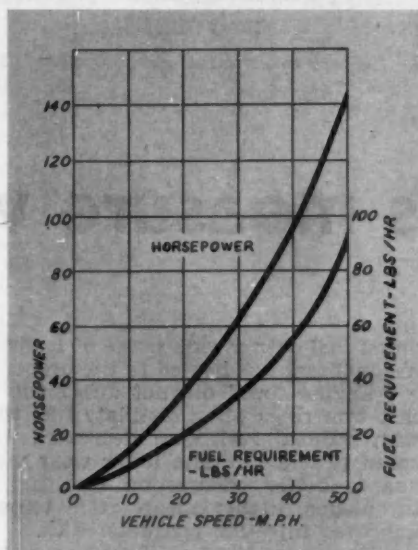

Fig. 8 — Roadload horsepower and fuel requirement versus vehicle speed. (gcw = 55,000 lb)
- The wheel horsepower and the fuel requirements in the typical vehicle are essentially straightline functions up to and including 30 mph (Fig. 8) . . . but are greatly increased at higher speeds. (To drive equivalent distances, for instance, 60% more fuel is needed at 50 mph than at 30 mph. So, it is clear, controlled speeds will improve fuel economy by reducing the power needed.)